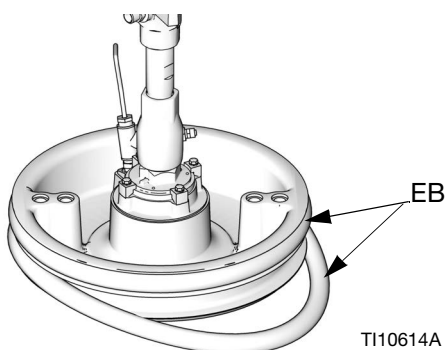

FIG. 42
1. Using a wooden or plastic tool to prevent damage to the Wiper (EB), clean all material from the seal grooves.
2. *Working from the bottom*, angle one Wiper (EB) over the back of the Platen (AD). See FIG. 42.
3. Insert the Wiper (EB) in the top groove and run the front of the Wiper into the groove.
4. If using a 55 gallon Platen, insert the second Wiper (EB) in the lower groove and run the front of the Wiper into the groove.